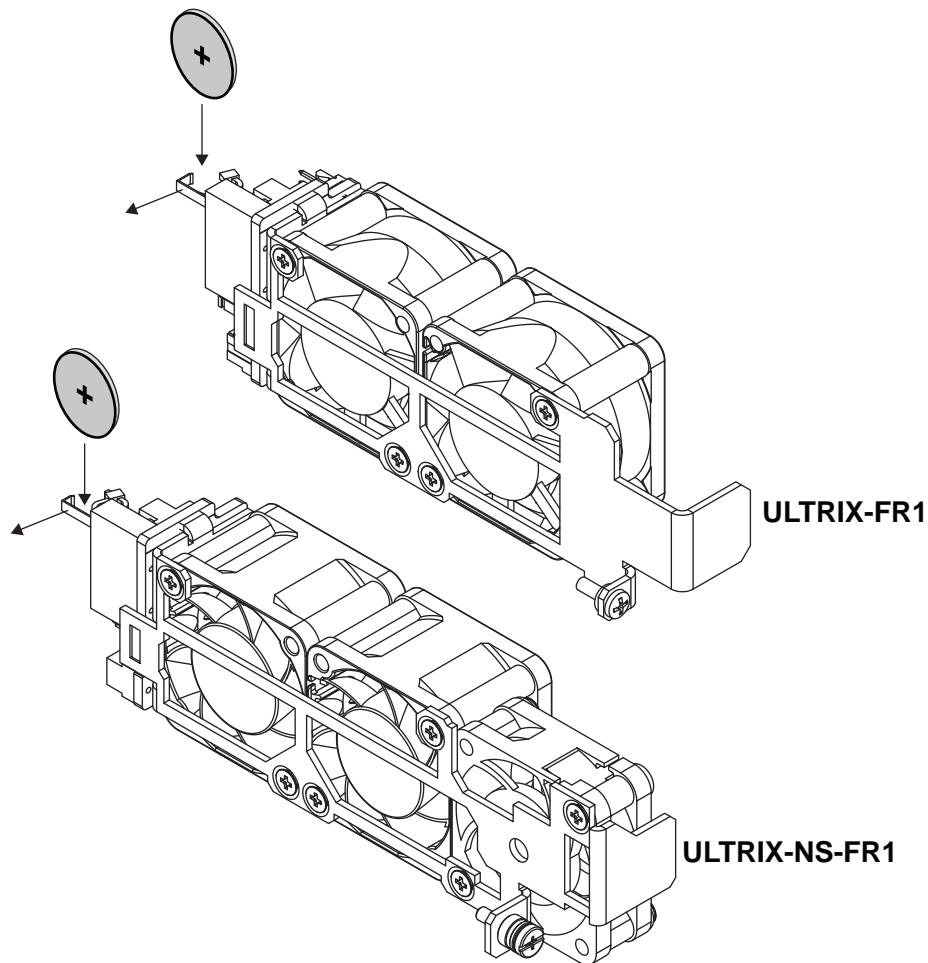

Figure 23.13 New Battery Orientation —ULTRIX-FR1 and ULTRIX-NS-FR1
1. Hold the battery in one hand and orient it so that the Positive side (+) faces away from you. (Figure 23.13)
1. Hold the battery in one hand and orient it so that the Positive side (+) faces away from you. (**Figure 23.13**)